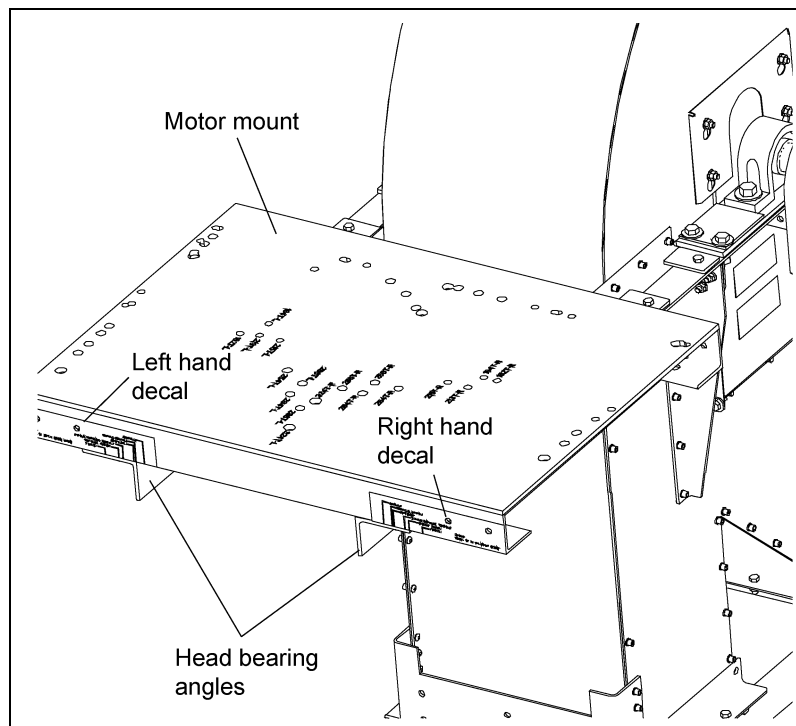
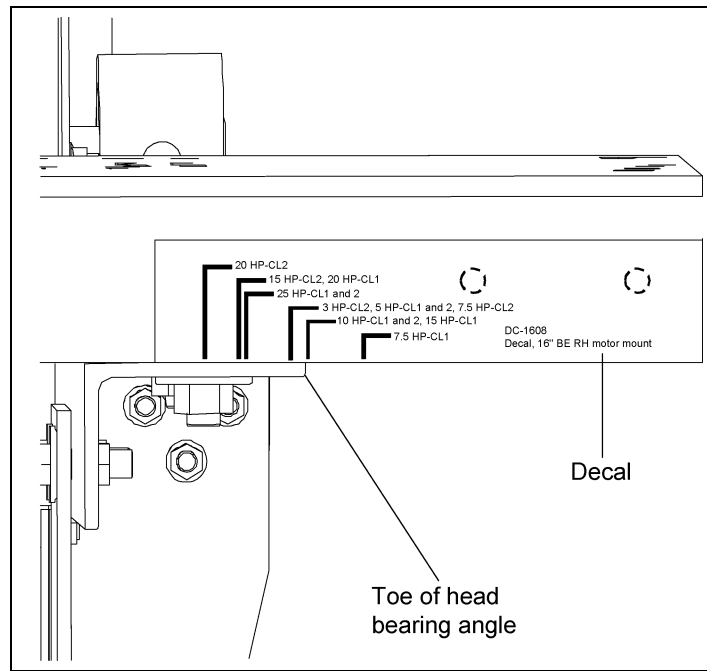

Figure 11A Motor Mount Plate
Figure 11B Right Hand Motor Placement Decals
The Figure 11A below and Figure 11B on Page 29 shown for a right hand application.
1. Locate the side of the motor mount which has two (2) decals affixed. (See Figure 11A.) One decal will have "L.H." for left hand and one will have "R.H." for right hand.
4. Slide the motor mount in or out while keeping the decal correctly aligned with the outside toe of the head bearing angle. (See Figure 11B on Page 29.) This will align the holes in the head bearing angles to the proper holes in the motor mount assembly.
5. Using the proper hardware, bolt the motor mount down to the head bearing angles. (See Figure 11A.)